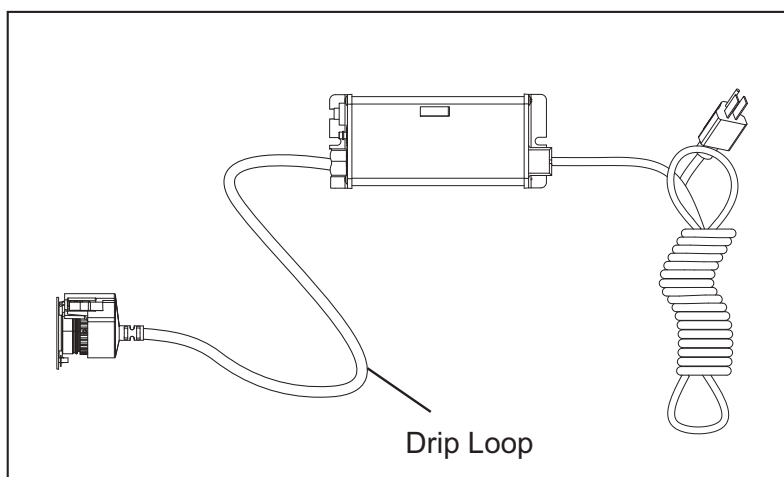

Figure 6 Drip Loop
- The controller should be mounted either above or beside the UV chamber. Always mount controller horizontally to prevent moisture from running down cordage and causing a potential fire hazard. Drip loops in all cordage connected to controller is highly recommended. Refer to Figure 6.
4. Mount the VIQUA ICE controller horizontally to the wall, near the UV chamber. Ideally place the controller above the chamber and away from any water connection point, to prevent any water from potentially leaking onto the controller by means of a leak at a connection point or a “sweating” system. Make sure you allow for a “drip-loop” as shown in Figure 6 on the UV lamp, UV sensor, and power cord, again, to prevent any water from potentially entering the controller.